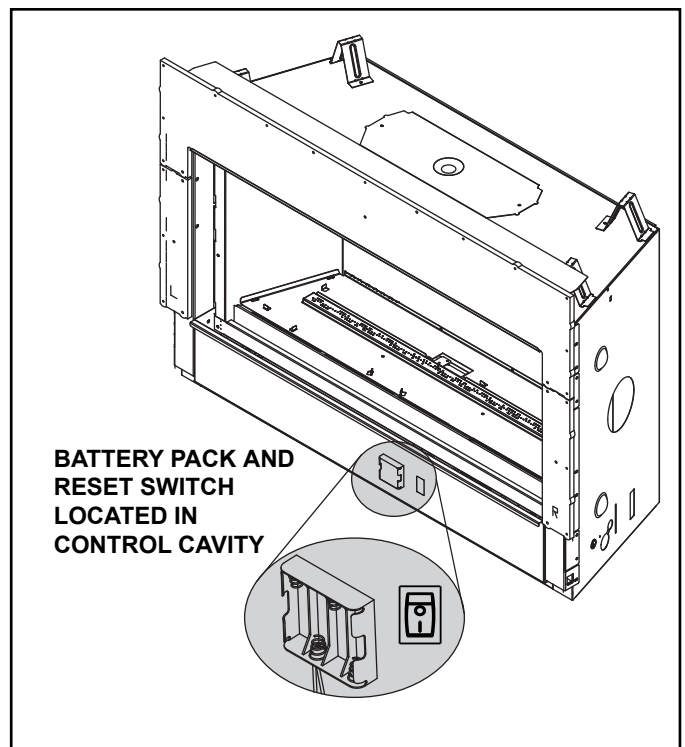

Figure 3.6 Battery Pack Location/Control Cavity
The Intellifire™ Touch intermittent pilot ignition system comes with a battery backup system that enables the system to operate in a power outage. The system offers seamless transition from household AC power to battery backup. A factory-installed battery pack is located in the control cavity of the appliance. See Figure 3.6. Battery longevity and performance will be affected by long term exposure to the service temperatures of this appliance.
1. The battery pack is located in the control cavity of the appliance. To access the control cavity of the appliance Remove the decorative front and glass assembly. See Section 4 for instructions on glass assembly removal. See Figure 3.6 for location of battery pack.
2. Locate the battery pack and remove it from the control cavity. It is held in place by hook and loop fastener. Insert four AA cell batteries. Battery polarity must be correct or module damage will occur. See Figure 3.6. A complete wiring diagram is included in the Electrical section of the appliance Installation Manual.
The appliance has a reset switch located inside the control cavity. See Figure 3.6 for approximate location.